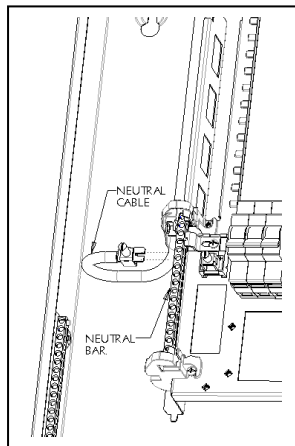
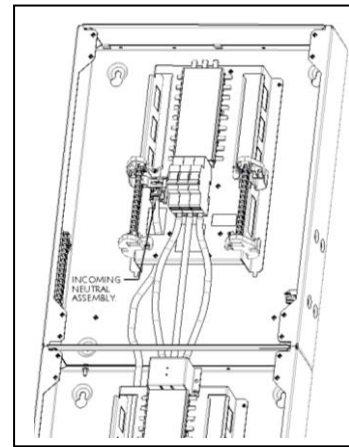

Fig.2.1 - Lower board.
Fig.2.2 – Upper board.
- Connect neutral cable to neutral bar of lower board using pronged connection supplied, see Fig 2.1. Connect other end of neutral cable to incoming assembly of upper board as per distribution board instruction leaflet, (Trim length and re-ferrule if required). See Fig. 2.2.